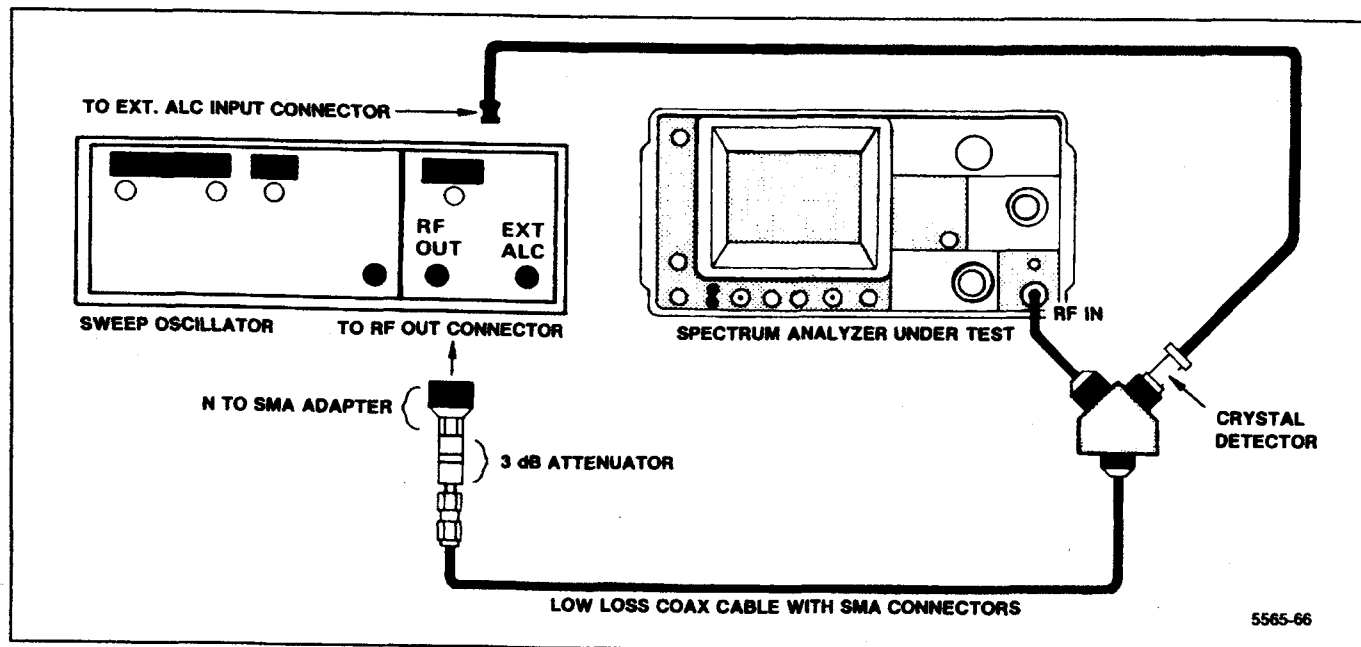

Figure 5-23. Test equipment setup for band leveling adjustment.
d. Connect test equipment as shown in Figure 5-23. Set the Spectrum Analyzer controls as follows:
a. Test equipment setup is shown in Figure 5-23. Apply 2072 MHz at −30 dBm, through a dc-blocking capacitor to the EXT MIXER input. Monitor the input with a power meter to set the power level then add a known 30 dB attenuator so the input level to the EXTERNAL MIXER port is −60 dBm. Set the Spectrum Analyzer controls as follows: